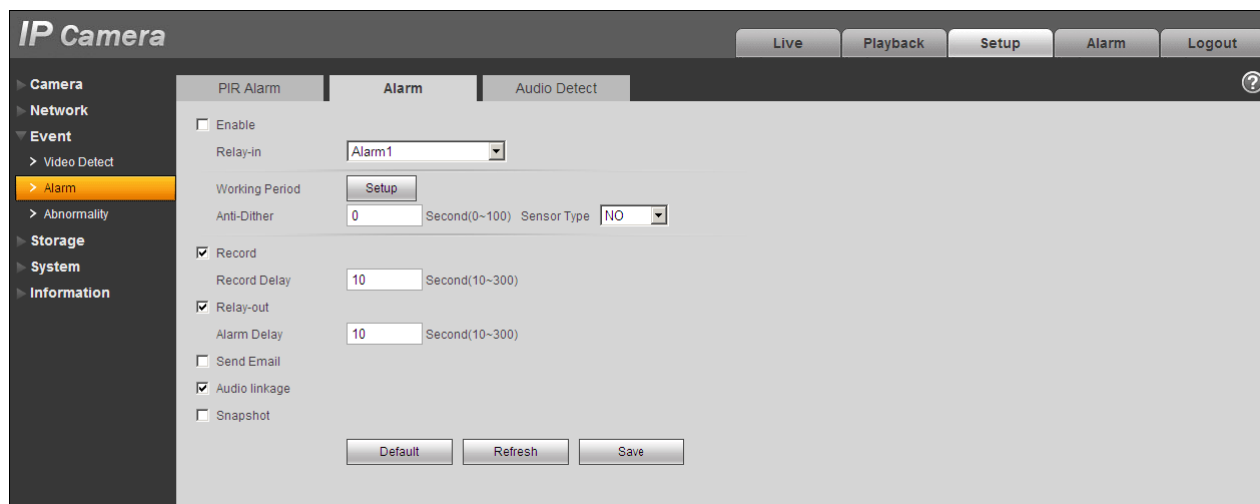

Figure 2-3 Alarm
The alarm interface is shown as in Figure 2-3. Please follow the steps listed below for local alarm input and output connection.
- 3) Open the Web, go to the Figure 2-3. Set alarm input and output correspondingly. Alarm input on WEB corresponds to I/O cable on device. When there is alarm, alarm input device will generate signal of high and low level. Set corresponding NO and NC inputs.